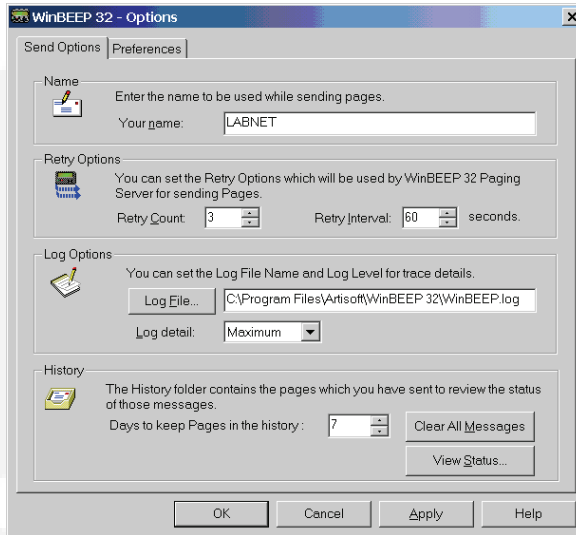

FIGURE 15-17. SEND OPTIONS
2. Enter the Name (typically the site name, or the network name for the site). Figure 15-17.